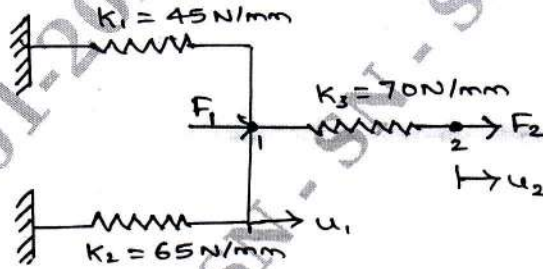

Fig Q1(b)
b. For the spring system shown in Fig Q1(b). Using principle of minimum potential energy, determine the Nodal displacement take $F_1 = 70\text{N}$ and $F_2 = 105\text{N}$